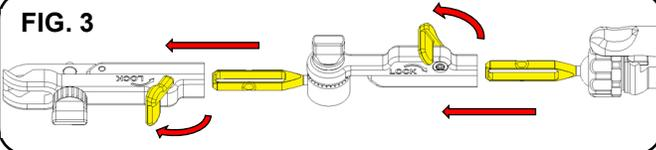

FIG. 3
1. Remove the selected adapter from the ARTICULATING ADAPTER and the ARTICULATING ADAPTER from the *miniARM*® by rotating the locking levers to the unlocked position and sliding the components apart (FIG. 3).